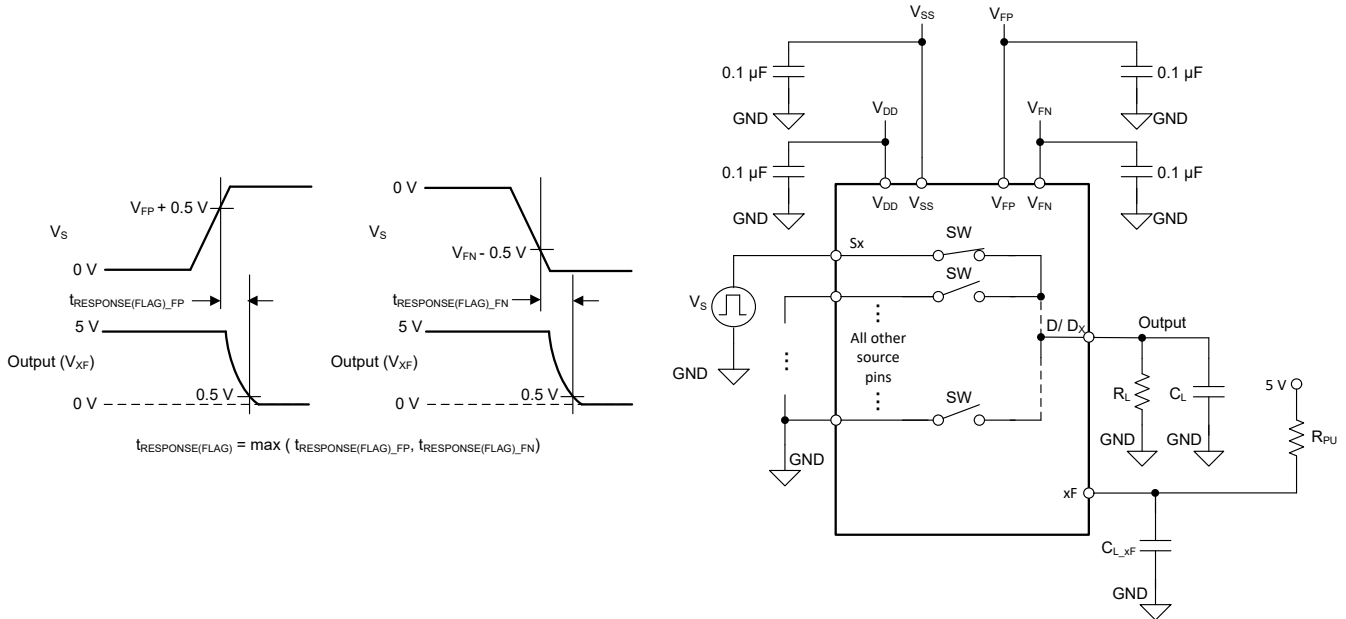

Figure 6-11. Fault Flag Response Time Measurement Setup
Fault flag response time ($t_{\text{RESPONSE(FLAG)}}$) measures the delay between the source voltage exceeding the fault supply voltage (V_{FP} or V_{FN}) by 0.5V and the general fault flag (FF) pin or specific fault flag (SF) pin to go below 10% of its original value. Figure 6-11 shows the setup used to measure $t_{\text{RESPONSE(FLAG)}}$.